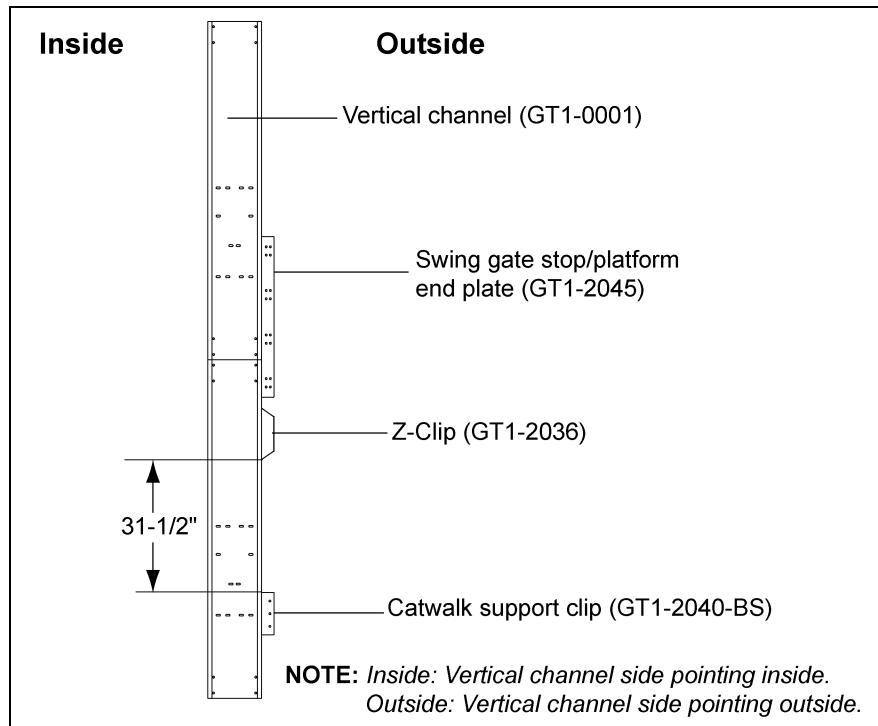
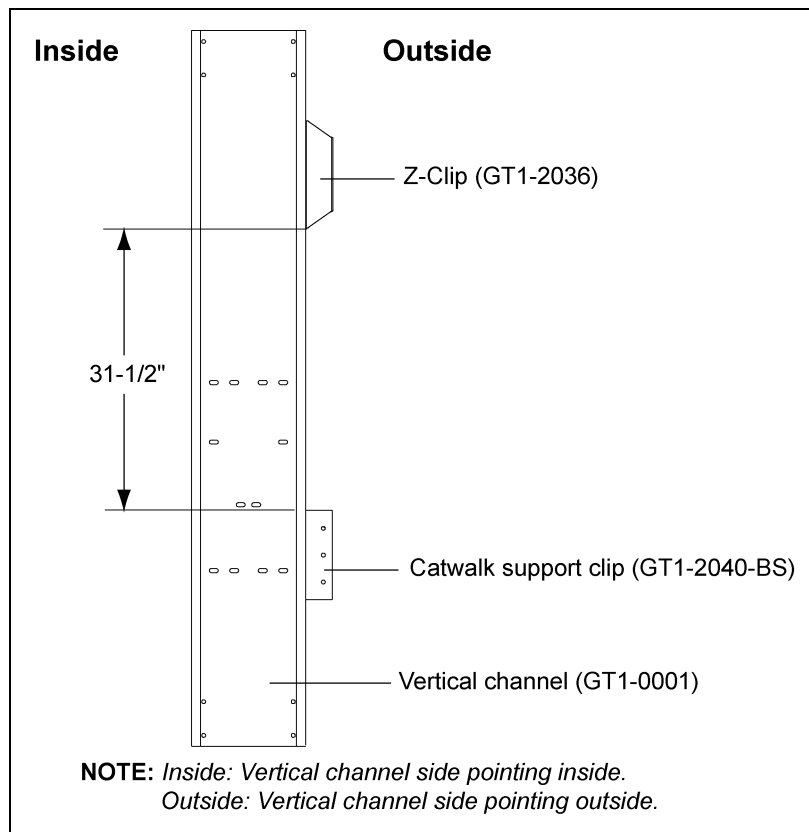

Figure 6H
Figure 6J
2. The distance between the Z-clip and support clip for 18' offset and roof hatch platform is 31-1/2". *(See Figure 6H below and Figure 6J on Page 50.)*